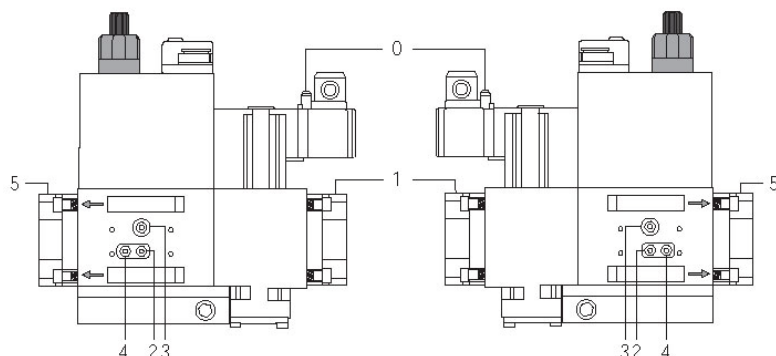
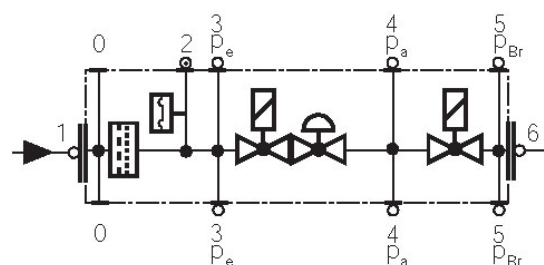

Fig. 25
Fig. 26
- Change the filter if the pressure difference between pressure connection 1 and 2 (Fig. 25-Fig. 26)  $\Delta p > 10$  mbar.
- Change the filter if the pressure difference between pressure connection 1 and 2 (Fig. 25-Fig. 26) is twice as high compared to the last check.